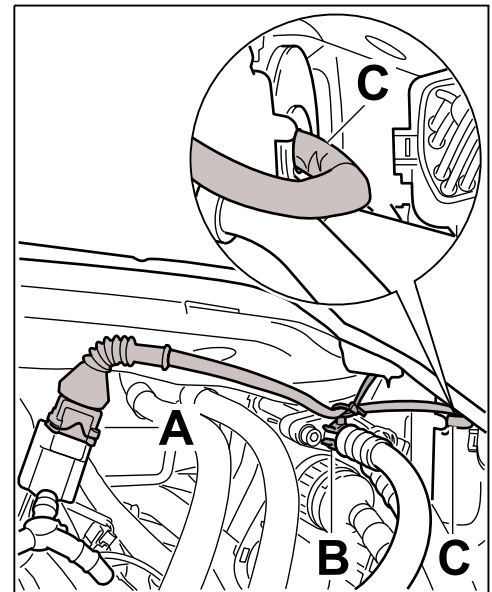

Figure 10
5.2.1 Connect 2-pin plug connection (⇒ *Figure 10-A-*) to electric change-over valve and clip in cable clip (⇒ *Figure 10-B-*) on refrigerant line flange.
5.2.2 Make a hole in the grommet (⇒ *Figure 10-inset-*) in the passenger compartment end plate (right engine compartment).
5.2.4 Route electric wire harness (⇒ *Figure 10-C-*) from the engine compartment through the grommet into the passenger compartment to the DME control unit.